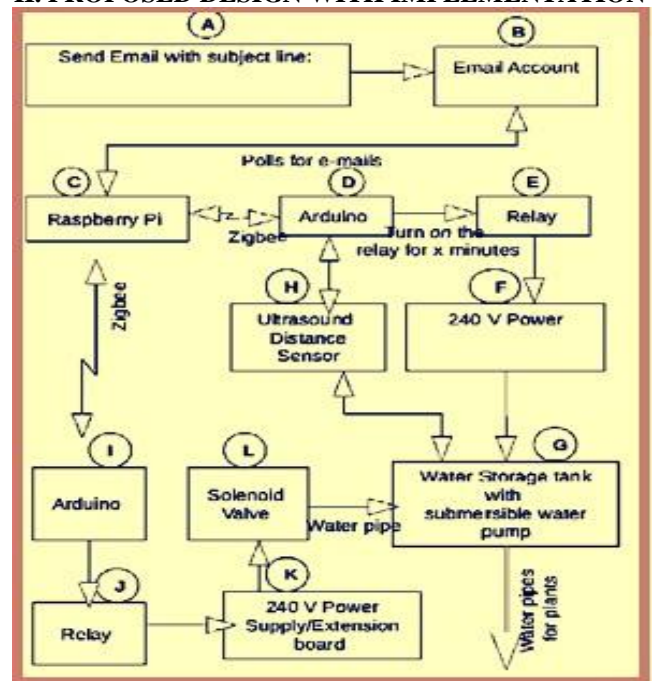

Fig.1. Data flow Diagram of Proposed System.
The functionality as follows: 240V power appliance from microcontrollers or low current circuits as shown in Fig.1. The connections to 1-channel relay board is presented, you will find three pins on the relay board namely normally open (NO), normally closed (NC) and customary (C). The most popular pin is linked to NC pin once the relay is off and also to the NO pin once the relay is on. The input pin "INP" receives logic high from raspberry pi as well as in turn switches around the relay, thus common is linked to NO which turns the unit on up until the relay is on. The "VCC" and "GND" pins from the relay are linked to 5V supply and ground correspondingly. continuously delivered to the solenoid valve and therefore the water level in tank doesn't drop below or over a threshold to avoid any damage within the water pump also to avoid overflow water in the water tank. The communication from sensor till solenoid valve is as follows:
- Ultrasound sensor send signal to microcontroller (D).
- Arduino (D) communicates the signal to pi.
- Pi again send the signal to Arduino (I) via zigbee Relay (J) is on/off based on the signal caused by pi thus opening or closing the solenoid valve.